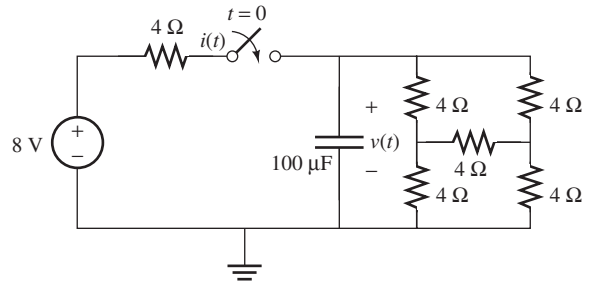

FIGURE P5.58 Circuit for Problem 5.58.
5.58 (A) Consider the circuit shown in Figure P5.58. The switch closes at $t = 0$, find $v(0^+)$, $i(0^+)$, and $v(\infty)$ using PSpice.